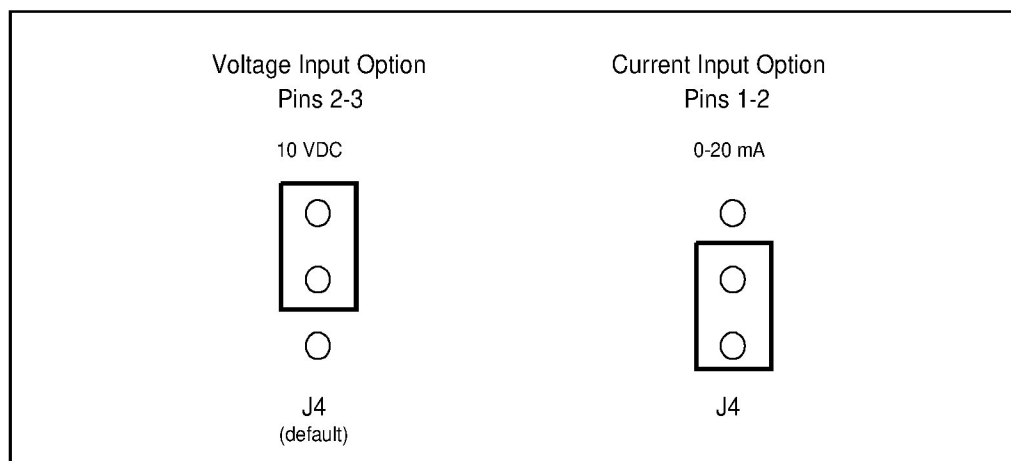

Figure 2.12 – Jumper J4 Settings for Analog Input Speed Reference
Step 5. Locate pin 1 on jumper J4. Move the jumper to the desired setting as shown in figure 2.12.